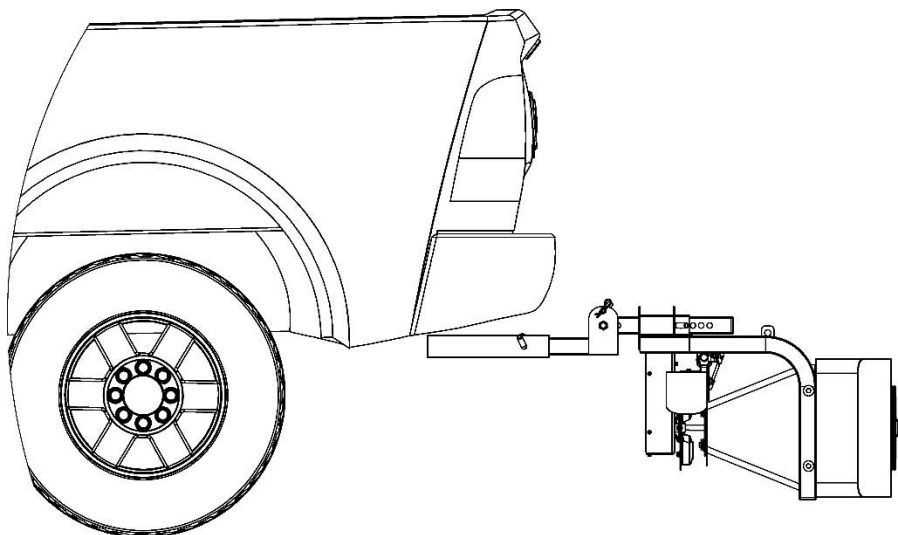

FIGURE 17.1
- Unlatch both secure straps and **CAREFULLY** unpin and lower Spreader Assembly as shown in **FIGURE 17.1**. for ease of cleaning hopper.